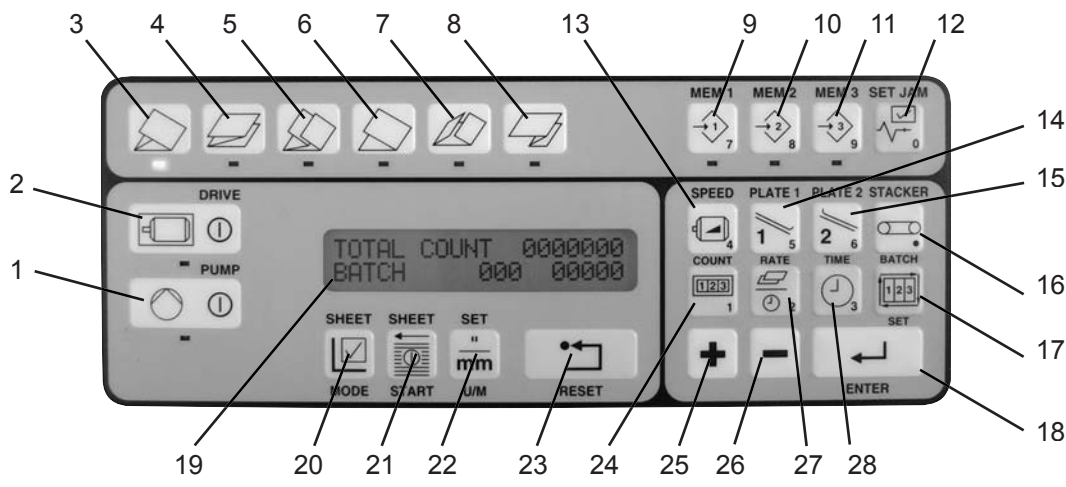

Fig. 16
4. Place ball deck onto the burster transfer table (Fig. 16).